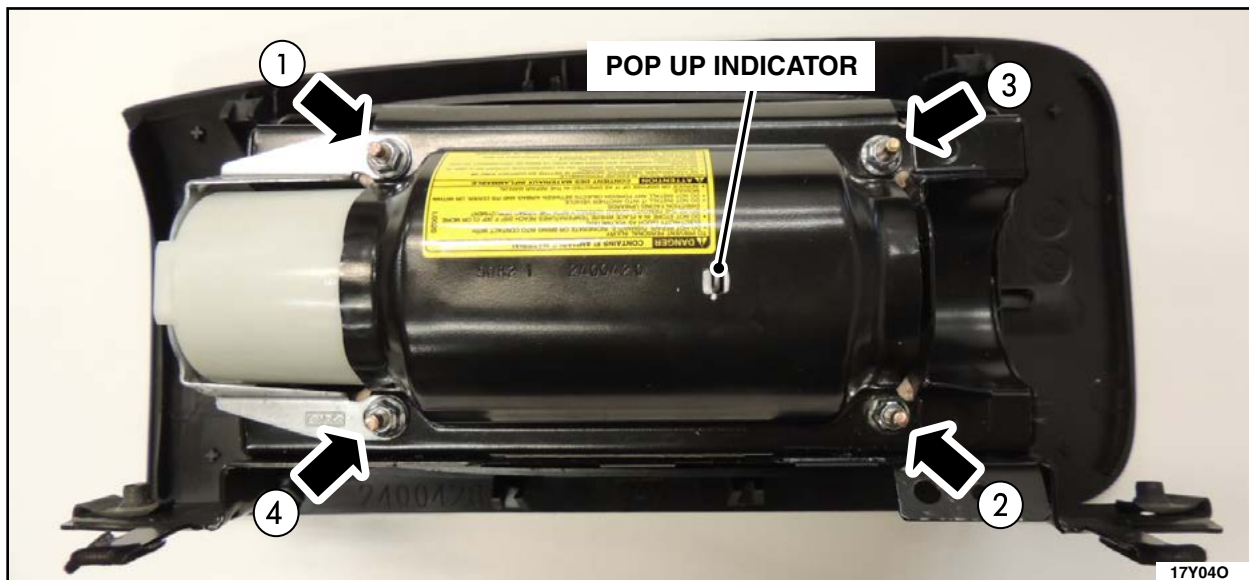

FIGURE 17
11. Install four *new* nuts. Assure pop-up indicator on air bag assembly is present. See Figure 17.